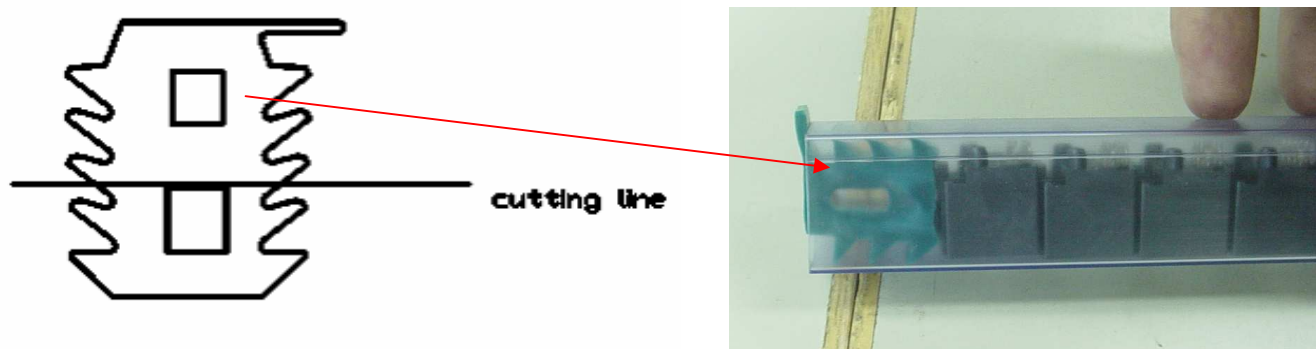

图 9
5.3. See figure, cutting plug, then plug cutted into the another side of the tube(see: figure 9).
如图9所示，对塞子进行裁短，然后再将已裁短的塞子塞入 TUBE 的另一端。